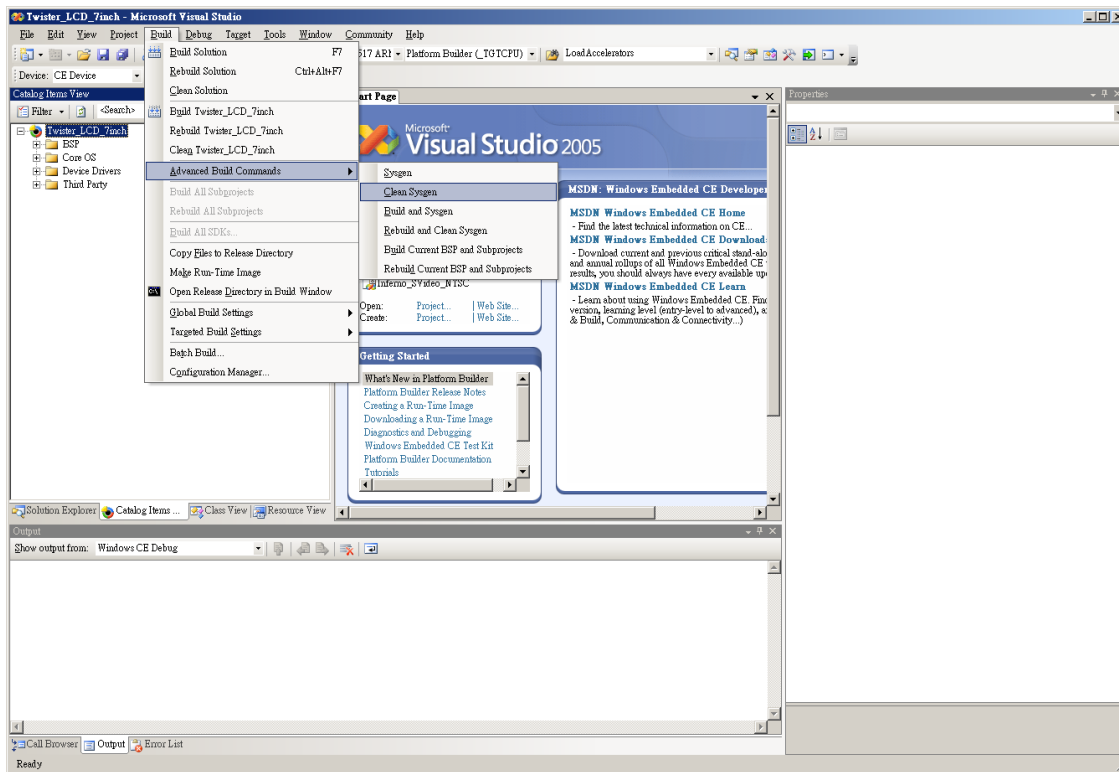
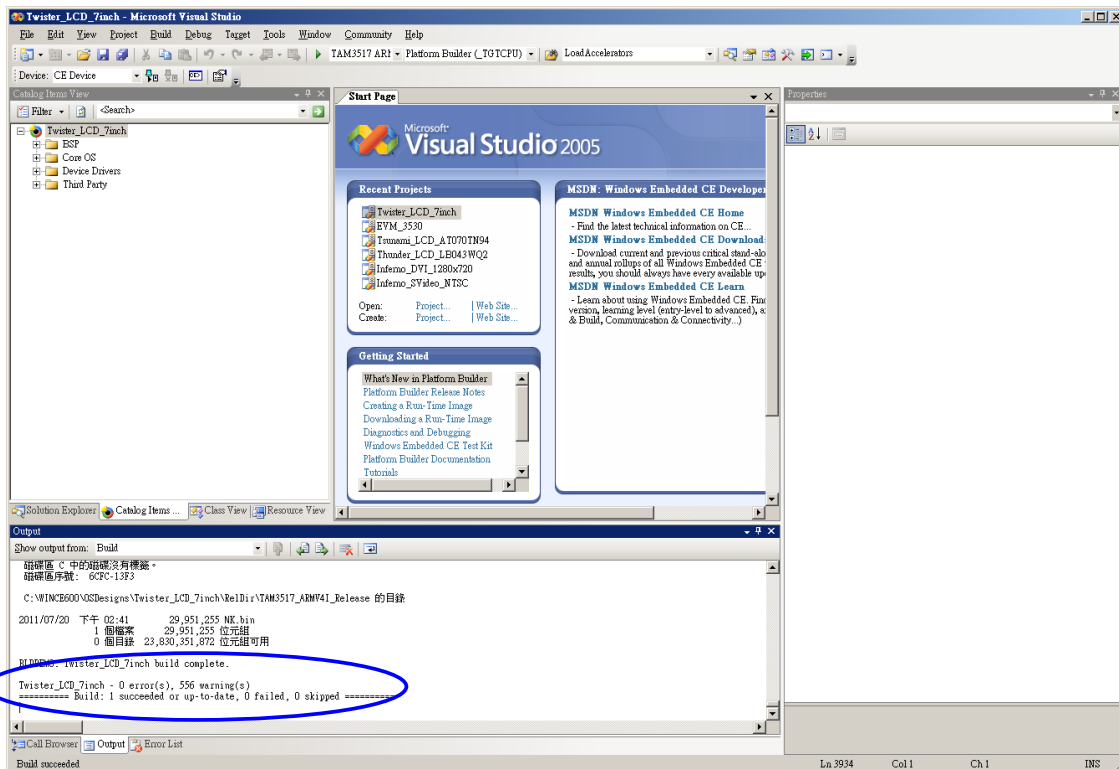

Figure 102
Figure 103
- In the menu click “build/advanced build command/Clean Sysgen” (See Figure 102) This will take approximately 20 minutes, after which you will see “build complete” (see Figure 103)